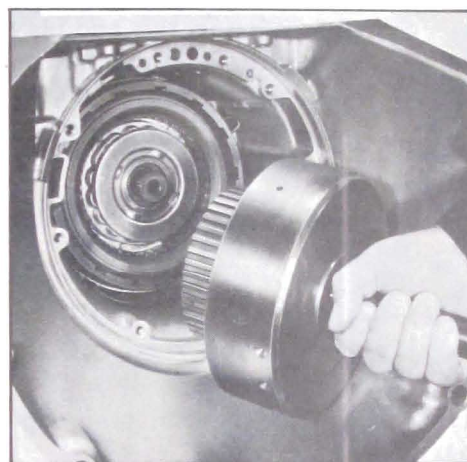

Figure 5-541
5. Remove forward clutch and turbine shaft assembly from transmission. See Figure 5-541.